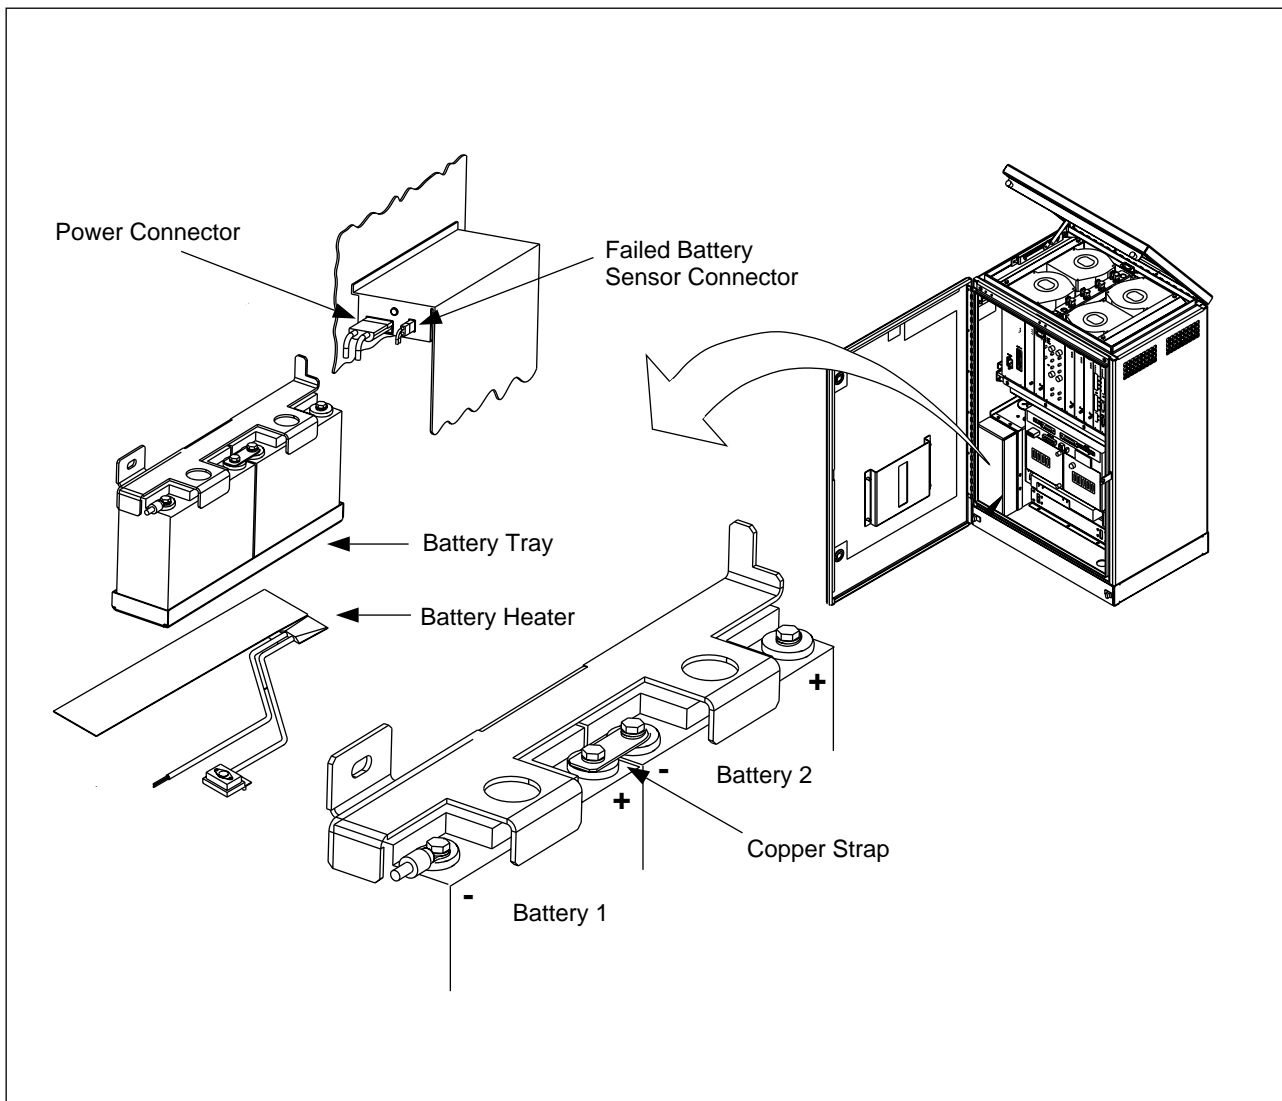

Figure 5-26. aBattery Assembly
4. Locate the battery compartment. See Figure 5-26 on page 5-50.